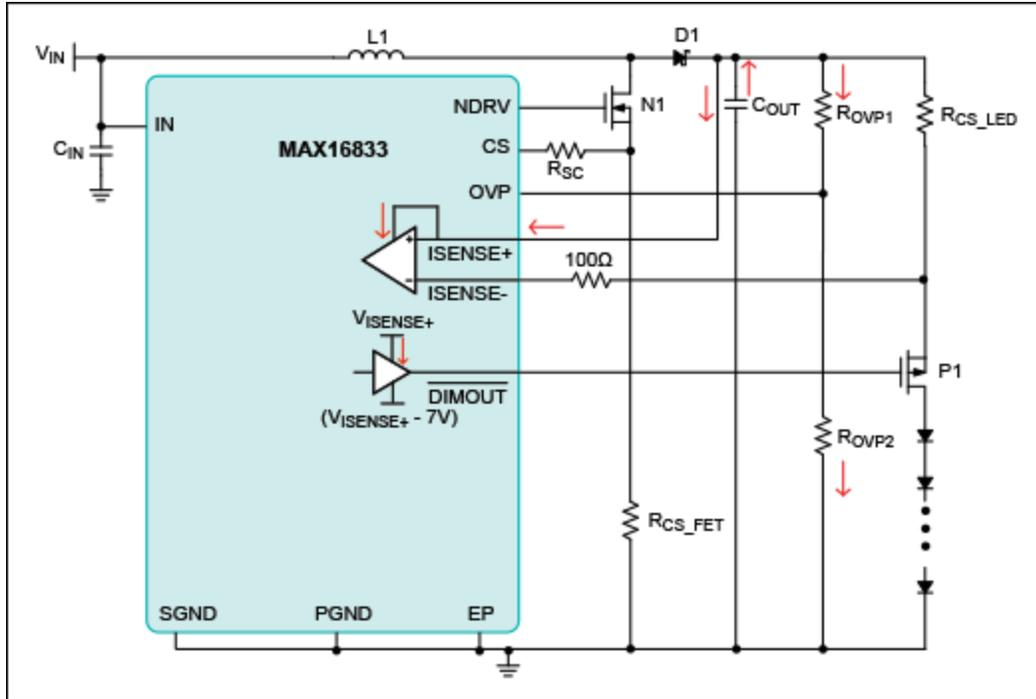

Figure 4. Output capacitor leakage paths.
**Note:** At very slow dimming frequencies (e.g., 1Hz turn signal), careful consideration must be made to prevent the output of the boost converter from discharging to within 1.5V of the battery. This is because a short across the LEDs is detected by sensing the voltage difference between  $V_{ISENSE+}$  and  $V_{IN}$ . If  $V_{ISENSE+}$  falls to within 1.5V of the battery voltage, then the active-low FLT output asserts low, erroneously indicating that a fault has occurred. The ISENSE+ input has a typical bias current of 200 $\mu$ A, which can discharge  $C_{OUT}$  during the off phase of the PWMDIM signal. The OVP resistor-divider is also a leakage path that can discharge the output capacitor (see **Figure 4**).